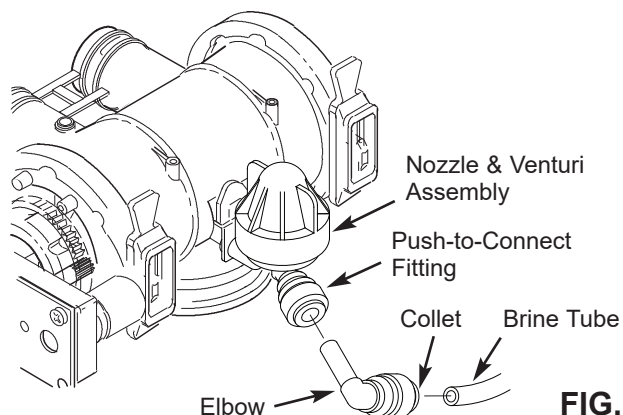
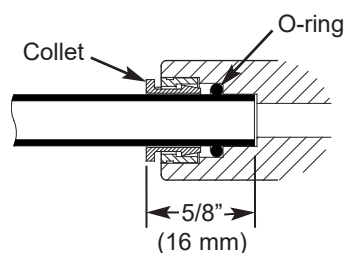

FIG. 10
FIG. 12
c. Connect brine tube by inserting end into push-to-connect elbow on the valve's nozzle & venturi assembly (See Fig. 10). Push it until at least 5/8" (16 mm) of tube is inserted (See Fig. 12).